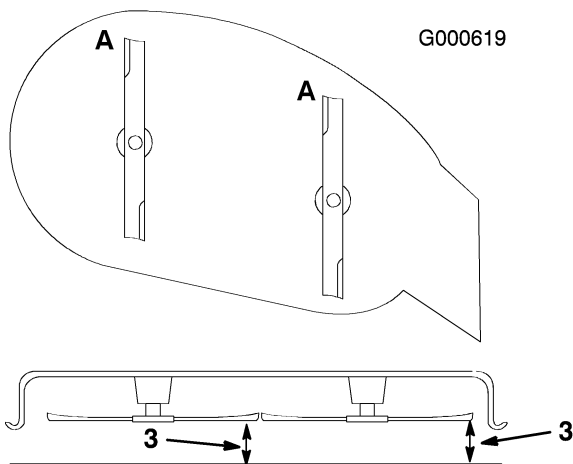

Figure 39
1. Rotate the blades until the ends face forward and backward (Figure 39). Measure from a level surface to the cutting edge, position **A**, of the blades (Figure 39). Note this dimension.